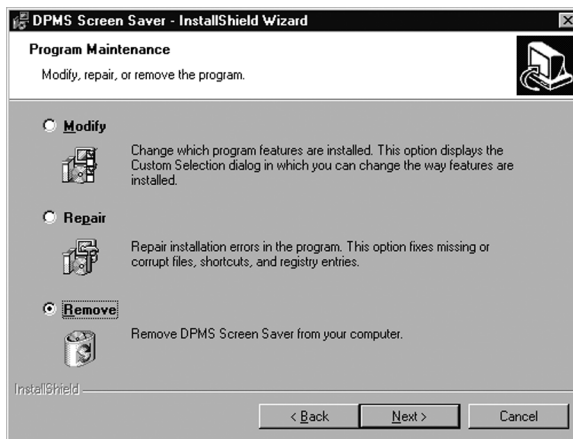

Figure 27
4. Click **"Remove"** on the Remove Program Screen of the Wizard (figure 27 below).